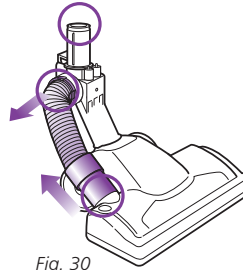

Fig. 30
- Detach the hose on the motorized floor brush at the top by squeezing the tabs together and pulling out, and at the bottom by pulling out the connector. Inspect inside the 3 holes. **(Fig. 30)**